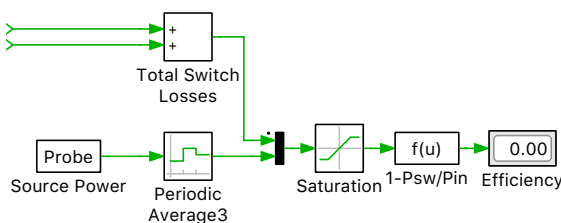

Figure 6: Calculating the converter efficiency using the input power and total device losses
- 1 Place an additional Probe, Periodic Average, and Multiplexer block into the schematic near where the total MOSFET and diode losses are summed. Probe the input power of the converter by monitoring the power signal of the DC Voltage Source. The **Averaging time** of this block should also be 0.1 ms. Using the Multiplexer, combine the source power measurement and total loss calculation of the switching cell into a single bus with a width of 2 signals, as shown in Fig. 6. As an optional step, add a Saturation block with a **Lower limit** of 1 and an **Upper limit** of inf, which ensures that there are no “Division by zero” issues at the beginning of the simulation.